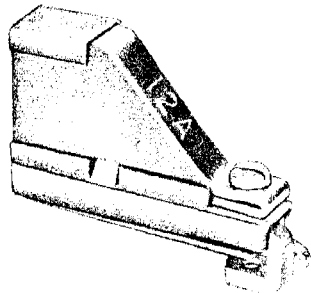

Fig. 19 — 12A Guard
6.12 The 12A guard is shown in Fig. 19. It is designed to protect special service lines appearing on frames that are equipped with 444A test jacks.